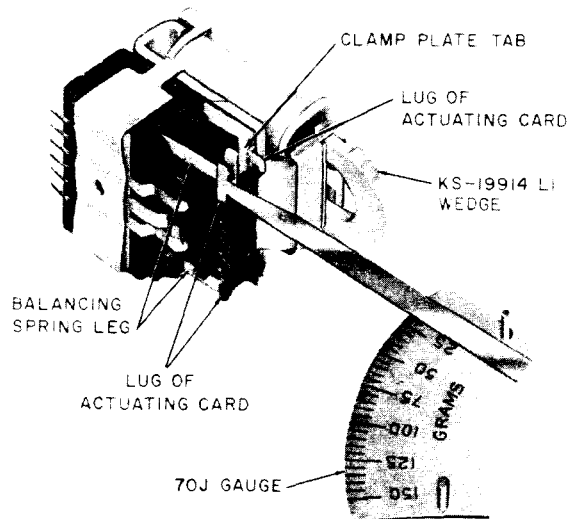

Fig. 10—Measuring Tension of Balancing Spring Leg
- (1) If the requirements for armature back tension and balancing spring tension are not met, proceed as follows: With the cover removed, block the relay operated using the KS-19914, L1, wedge (see Fig. 10). Then measure the tension of each balancing spring leg. To do this, position the tip of the 70J gauge against the lug of the actuating card at the end of the balancing spring leg as shown in Fig. 10. Move the gauge toward the actuating card until there is an observable gap between the clamp plate and the associated lug of the actuating card. With the gauge in this position, note the tension on the gauge.
- (2) If there is considerable difference between the tensions of the balancing spring legs, adjust the leg having the lower tension to a value approximately equal to that of the other leg, using the spring adjuster as covered in (3), (4), and (5). If the requirements are still not met, increase or de-